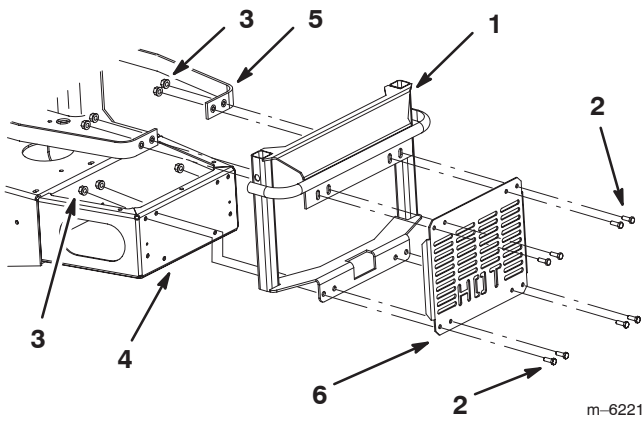
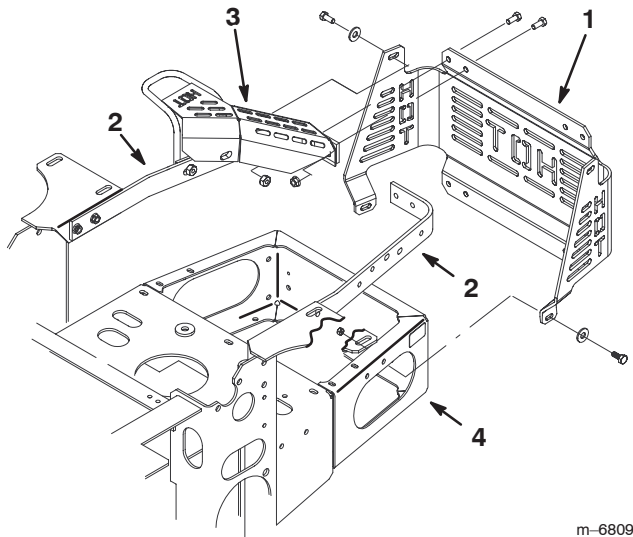

Figure 4
Figure 5
Note: Determine if machine is equipped with a back mount or back and side mount heat shield. If machine is equipped with a back mount heat shield (Fig. 4), use steps 1 thru 3. If machine has a back and side mount heat shield (Fig. 5), proceed to step 4.
2. Position the bagger bracket behind the engine guard straps and rear bumper (Fig. 4).
3. Install the bagger bracket and rear heat shield to the engine guard straps and rear bumper with 8 bolts (5/16 x 1 inch) and 8 flange nuts (5/16 inch) (Fig. 4).
- Remove the 8 bolts and nuts securing the rear of the heat shield to the engine straps and rear bumper (Fig. 5). Discard the bolts and nuts.
- Remove the 4 bolts, washers and nuts securing the sides of the heat shield to the engine straps, tailpipe guard and bumper. Retain the heat shield and these bolts, washers and nuts (Fig. 5).